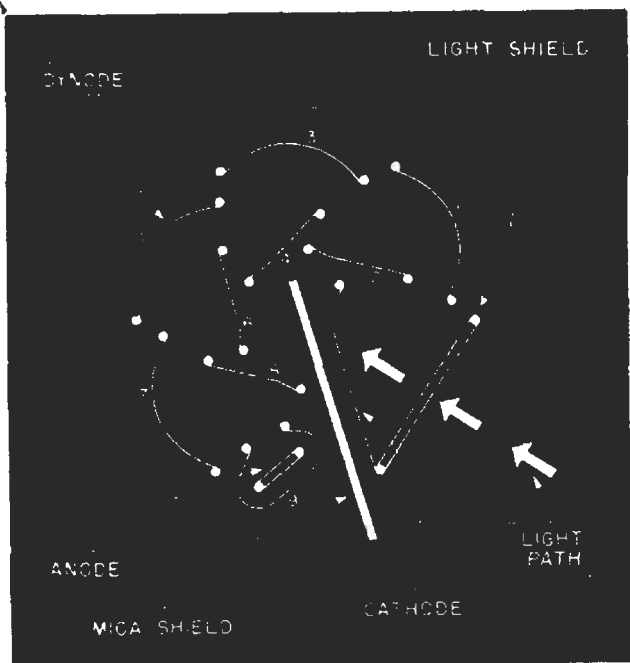

FIG. 19. The electron-multiplier cell contains a number of elements, so shaped and placed that secondary emission tremendously increases the sensitivity.
The elements of the RCA 931-A are arranged as shown in Fig. 19. The dynodes—numbered 1 through 9—are maintained at successively higher positive voltages with respect to the cathode, usually in 100-volt steps. That is, dynode 1 is 100 volts more positive than the cathode, dynode 2 is 100 volts more positive than dynode 1, and so on. The dynodes are so
The mica shield shown in Fig. 19 is used to prevent possible feedback of positive ions from the anode to the cathode. Although the glass envelope in which the tube elements are housed is as well evacuated as is commercially practicable, a small amount of air is left in it, and some of this air may be ionized by the large electron current in the space between the anode and dynode 9. If such ions were able to flow to the cathode or to one of the first dynodes, they would cause secondary emission from these elements which would, of course, be amplified by the other dynodes of the cell. This would make the electron flow through the cell undesirably erratic, and might change the amplifying characteristics of the cell considerably. The mica shield, which allows no ions to pass through it and emits no secondary electrons when struck by ions, prevents the ions from reaching the cathode or any but the highest-numbered dynodes, and so reduces their effects to a minimum.
► The light shield (see Fig. 19) is a small grill through which light must pass to reach the cathode. It is used principally to prevent undesired light from reaching the cathode. Also, the grill acts as an electrostatic shield, since it is electrically connected to the cathode.